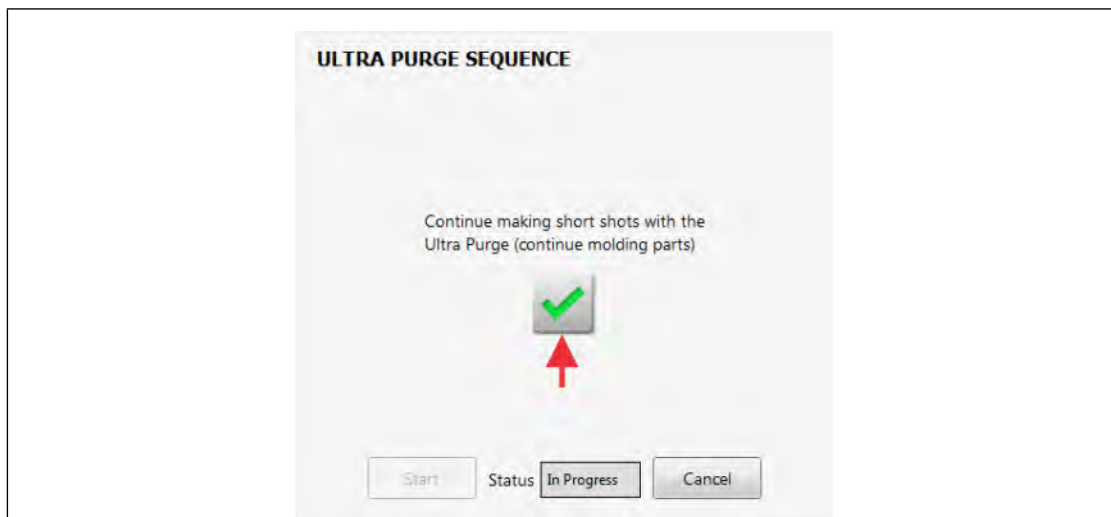

Figure 13-31 Continue to Do Short Injection Shots with Ultra Purge
17. Continue to do short injection shots with the Ultra Purge (Figure 13-31).